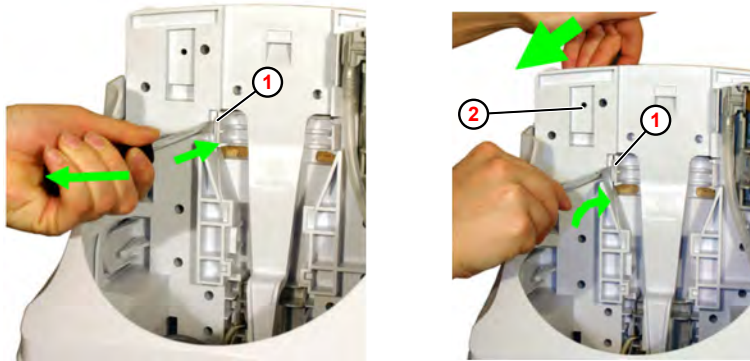

Fig. 23: Removal from the holder (shown with EcoPlus S)
1. ➤ Insert a large flat-headed screwdriver(Fig. 23 , ①) (broad blade) between the catch and the rear wall of the unit.
2. ➤ Turn the screwdriver until the catch opens and, at the same time, pull the unit ② forwards with the other hand.